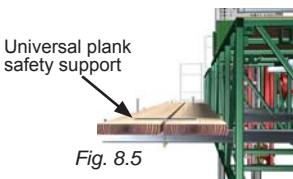

Fig. 8.5
- 3- Using screws or nails, secure the top plate of the plank safety support to the planks (fig. 8.5).